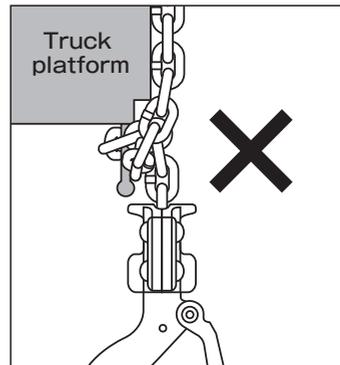

Figure 15
- (41) Do not suspend the load chain directly from rope hook fixtures on trucks. Do not use the load chain as a suspension device. (Figure 15)